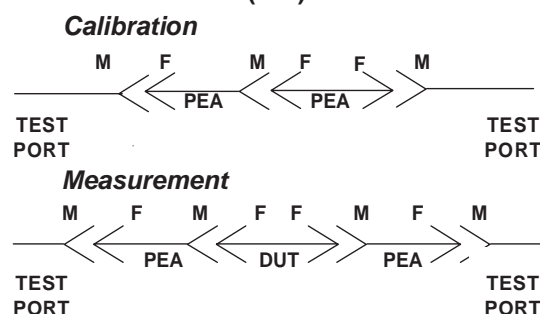

Figure 7-4. Using Phase-Equal Insertables
- ❑ It provides a simple solution to measuring non-insertable devices (e.g., a filter with K female input and output connectors) by merely swapping the PEA after calibration. See Figure 7-4